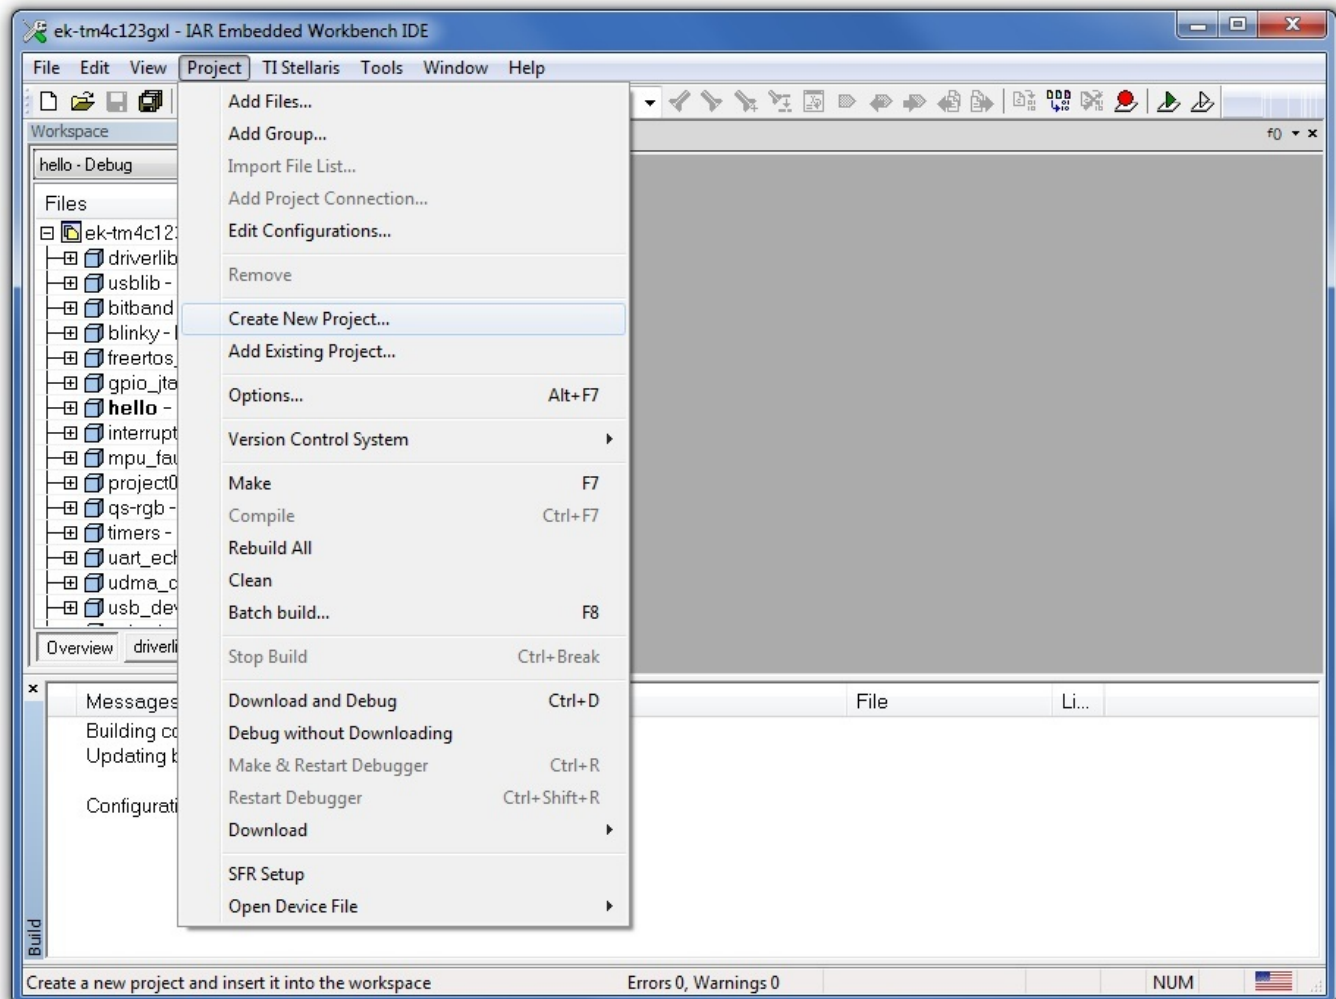

Figure 6.
1. In the Project menu, select Project → Create New Project... (see Figure 6).